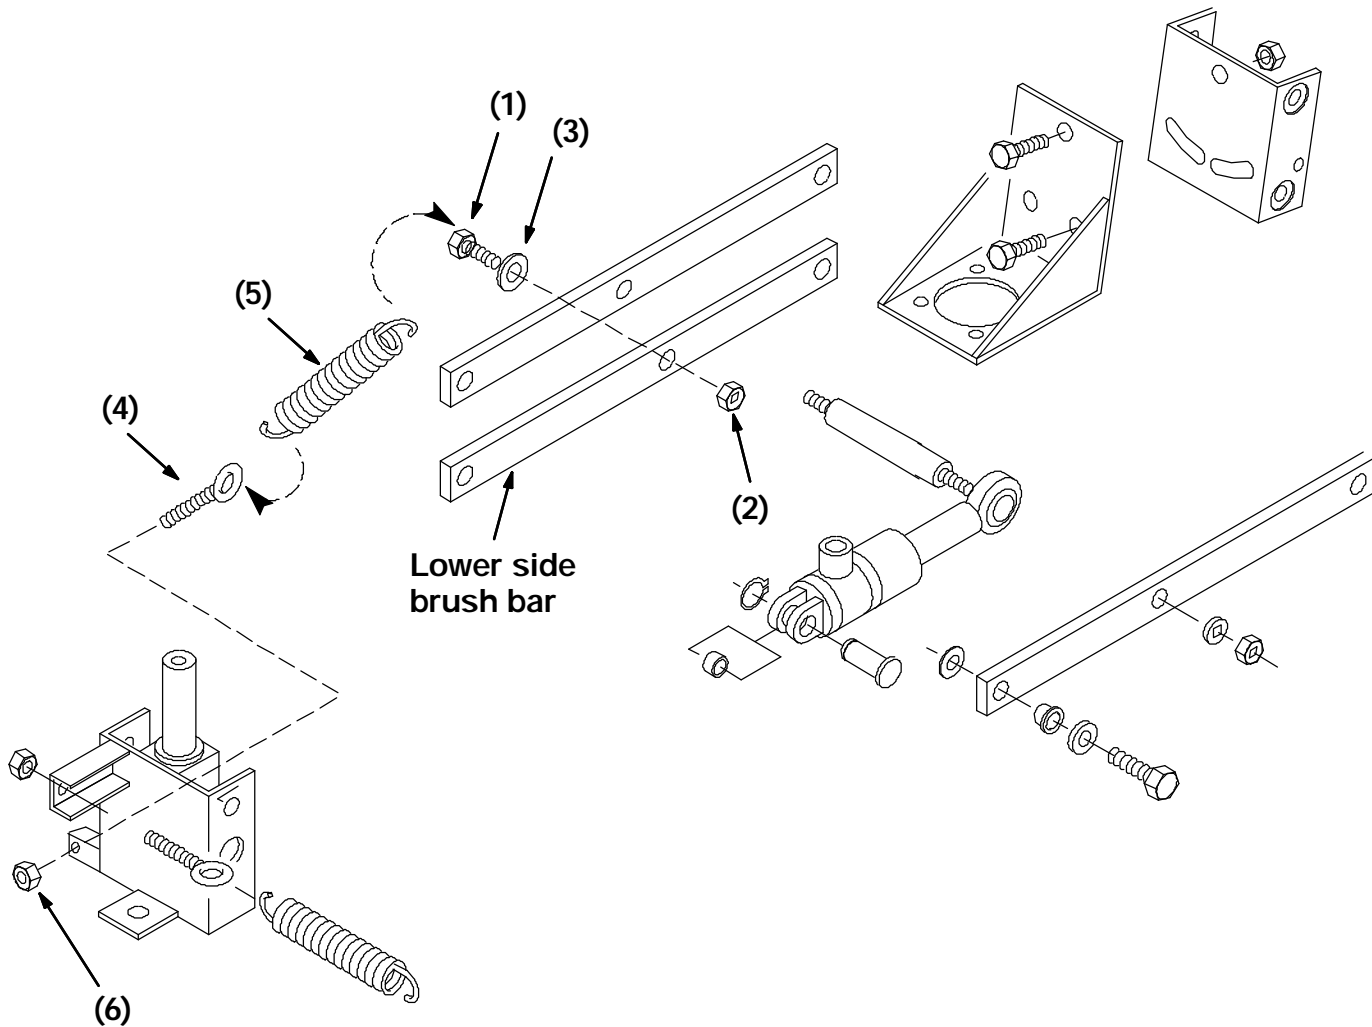

FIG. 1 - Side Brush Assembly
(Refer to FIG. 1)
*NOTE: This installation kit has a M12 nut (2) and a 1/2 in. nut (6) which are very similar in appearance, **DO NOT** mix these two up.*
1. Install the eyebolt (4) and **1/2 in.** nyloc nut (6) in the hole in the upper side brush bracket. Leave the nut loose for now. (Refer to Fig. 1)
2. Hook the tension spring (5) on the eye bolt. The end of the spring with the eye on the center line of the spring attaches to the eyebolt. (Refer to Fig. 1)
3. Attach the other end of the spring to the lower side brush bar using the M12 hex screw (1), 1/2 in. washer (3), and **M12** nyloc nut (2). Make sure the hex screw is installed with the nut on the inside of the arm. Snug the M12 hex screw and nut to a point that the spring is still free to pivot. (Refer to Fig. 1)
1. Tighten the 1/2 in. nyloc on the eye bolt so that 2-1/4 in of thread extend through the nut. (Refer to Fig. 1)